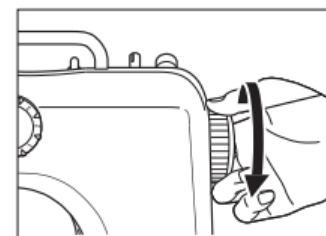

Fig.10
7. When you finish the sewing, turn off the switch, unplug the adapter, turn the handwheel to raise the needle up, lift the presser foot, and then gently remove the fabric from the sewing machine, and cut the thread with the thread cutter.(Fig.10)